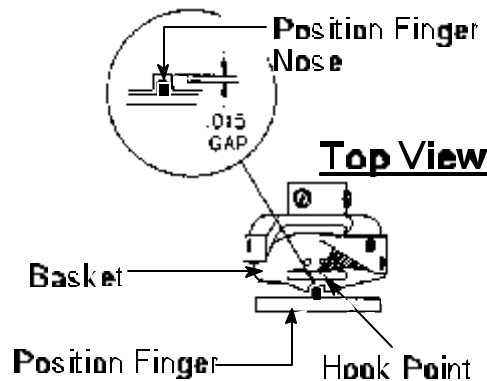

Figure 2
5. Move Position Finger Nose **forward or back** from hook basket allowing enough clearance for thread to pass between easily. See *Figure 2*.